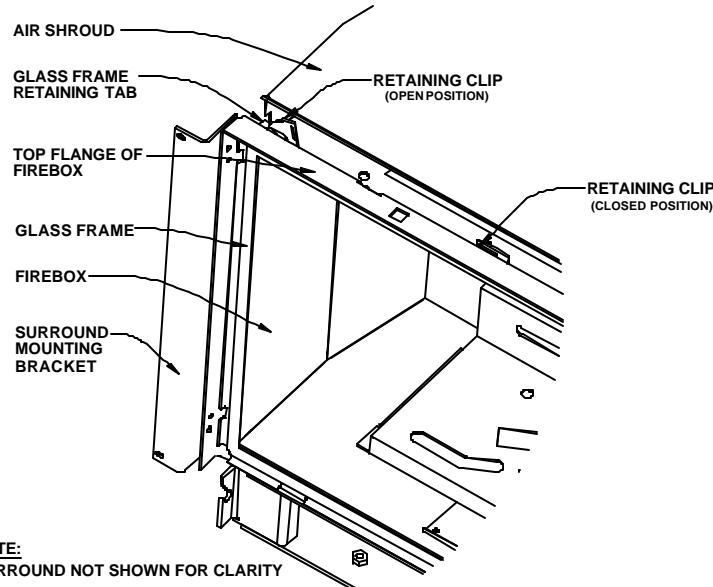

Figure 10
*(Refer to Figures 10 & 11)*
**Attach the left and right flanges, which come in the log accessory box, to the sides of the firebox, using the four screws also included. (for placement see figure 10)**
*(Refer to Figures 10.)*